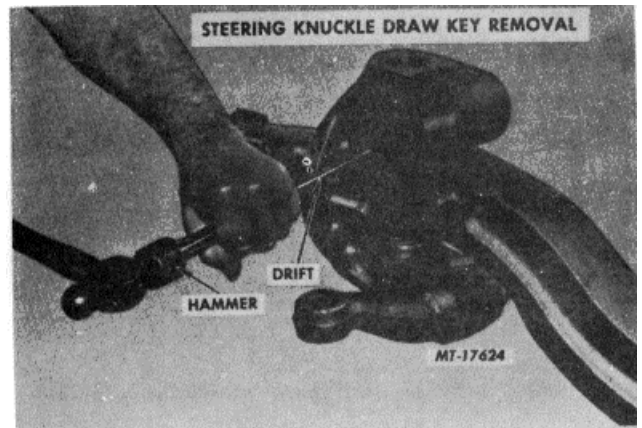

Fig. 5
5. Drive out the knuckle pin draw key (or keys) from the small end using a suitable small slender drift, Fig. 5.